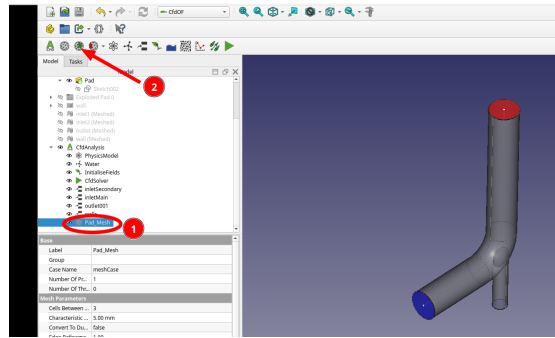

Figure 8: Add the boundary layer to the mesh
- To create the boundary layer, select the mesh element and click on **Mesh refinement** (see Figure 8)